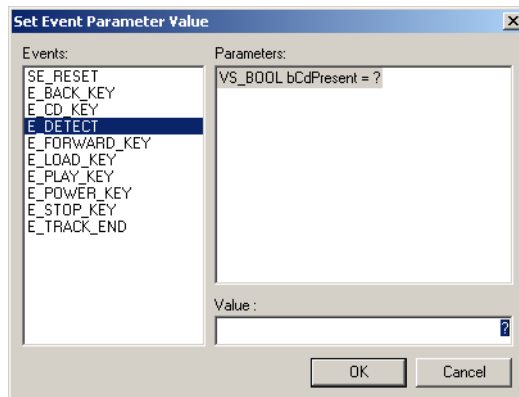

Figure 136: Set Event Parameter Value dialog box (Validator)
- 1 In the Event window activate the pop-up menu and choose *Set Parameter Values....* A dialog box will be displayed. See *Figure 136*, page 167.